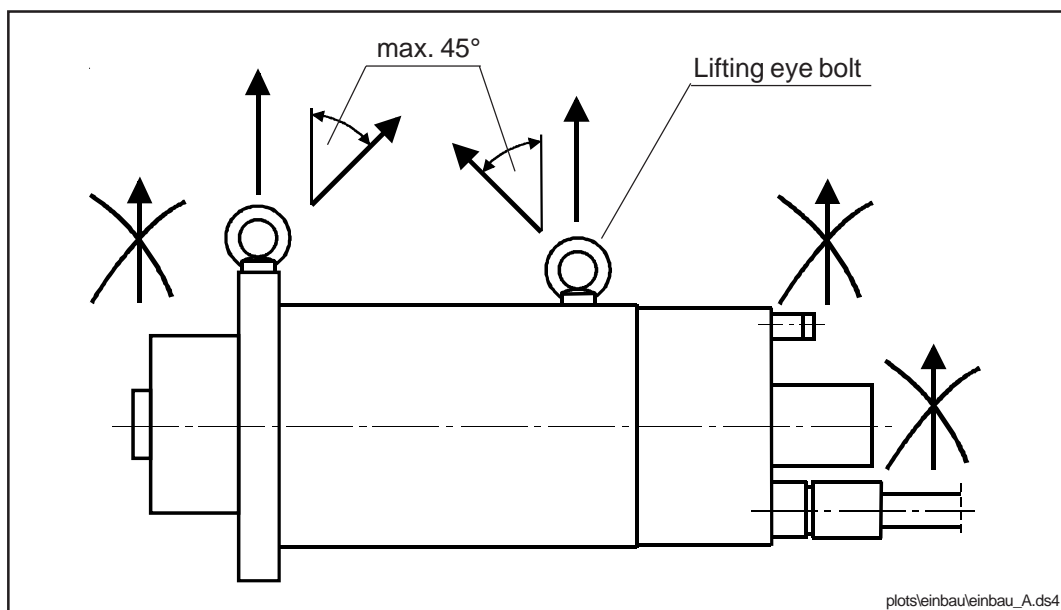

Fig. 4.2.1
Please note the weight lifting points in Fig. 4.2.1.
- At the periphery of the spindle housing there are two threads M10. Into these threads lifting eye bolts are screwed in respectively can be screwed in. Use these lifting eye bolts to lift up the spindle with suitable transport device (see Fig. 4.2.1).